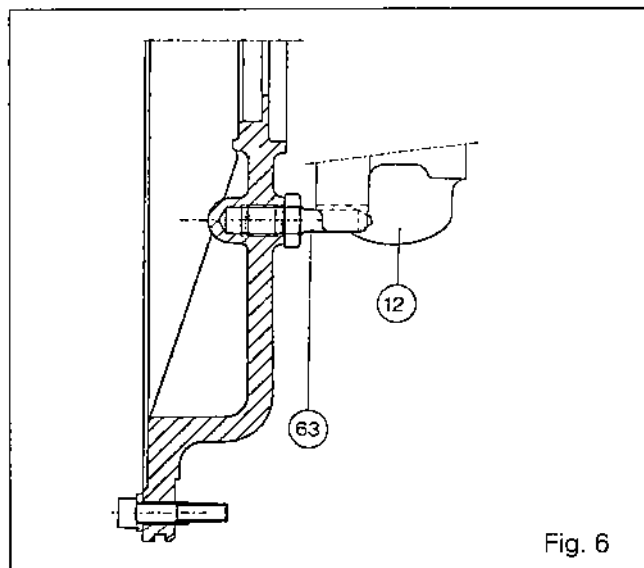

Fig. 6
20. Grease the oil seal (57). Fit protector 3378012M1 on the shaft (7). Screw two guide studs in diametrically opposite positions on the spacer and reinstall the plate (10) and fit the finger (63) in the notch in the pump body (12) (Fig. 6).
21. Tighten the bolts (5) and (62) to a torque of 25 to 35 Nm.
47. Refit the cover plate with the finger (63) in the notch on the pump body (12) (Fig. 6), using the same method as for procedure 12.
48. Tighten bolts (5) and (62) fitted with washers (6) to a torque of 25 to 35 Nm.